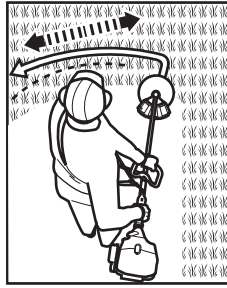

Fig. 17b
6. Move the product with slow and regular arc from left to right before moving it back to the starting position before trimming the next area. (See Fig. 17b)